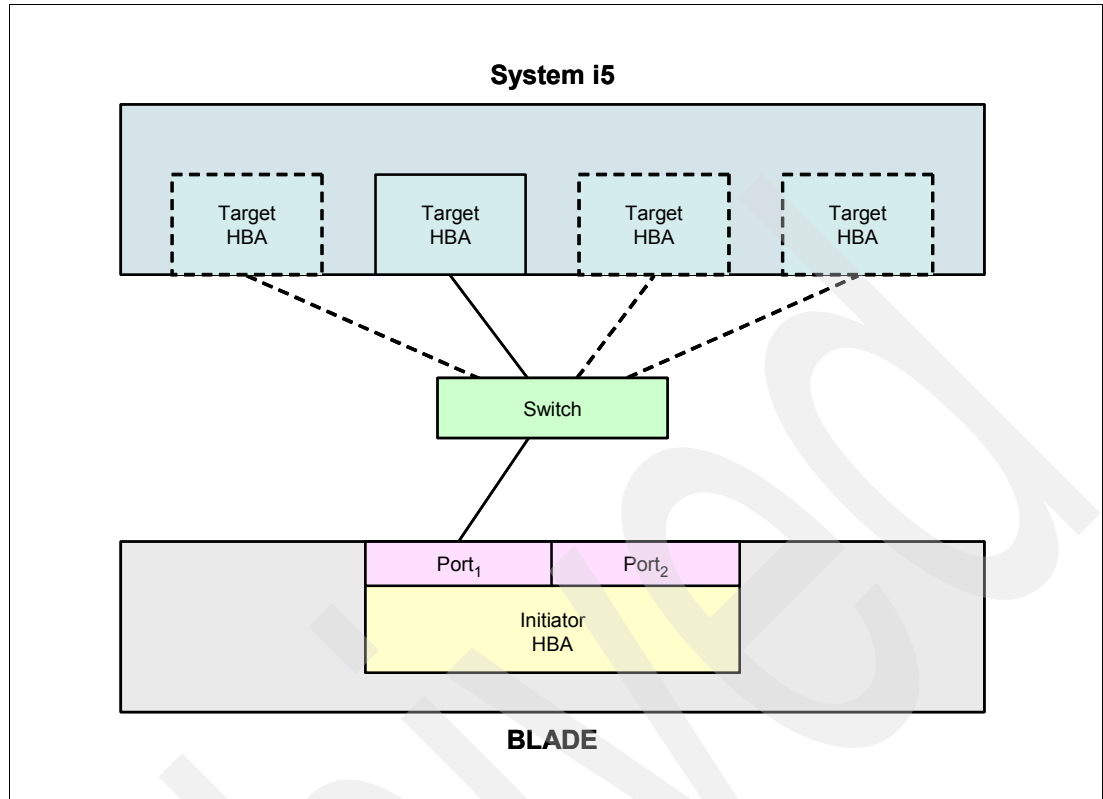
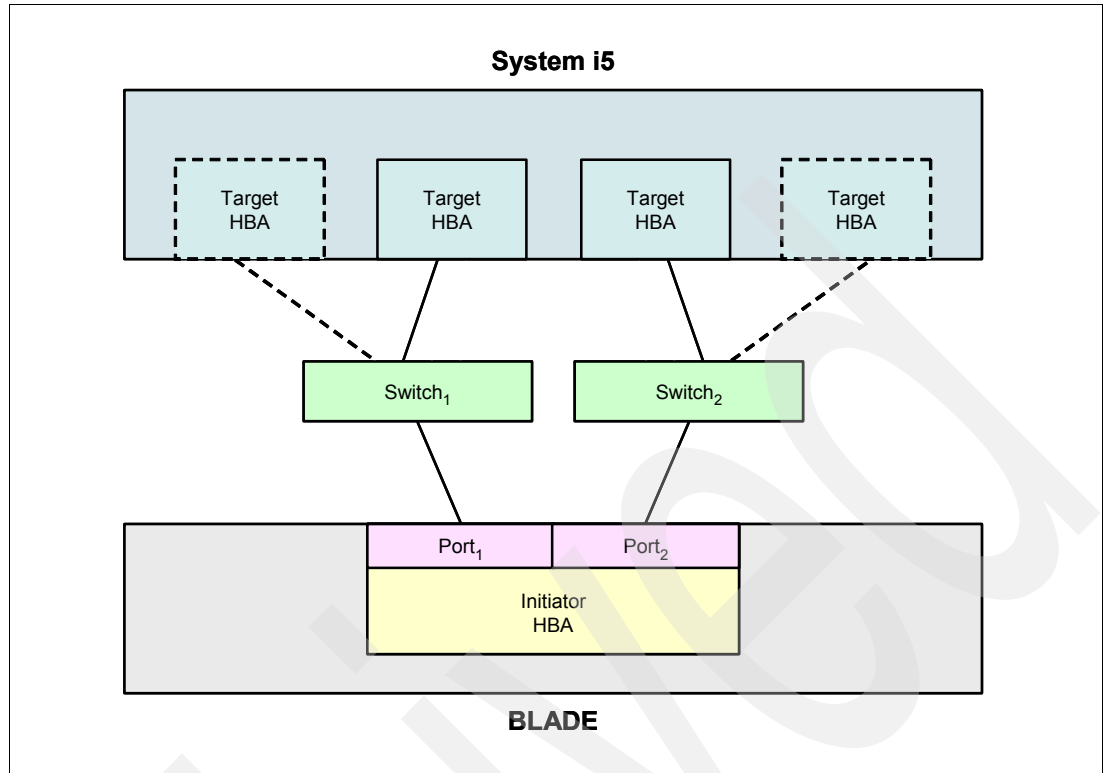
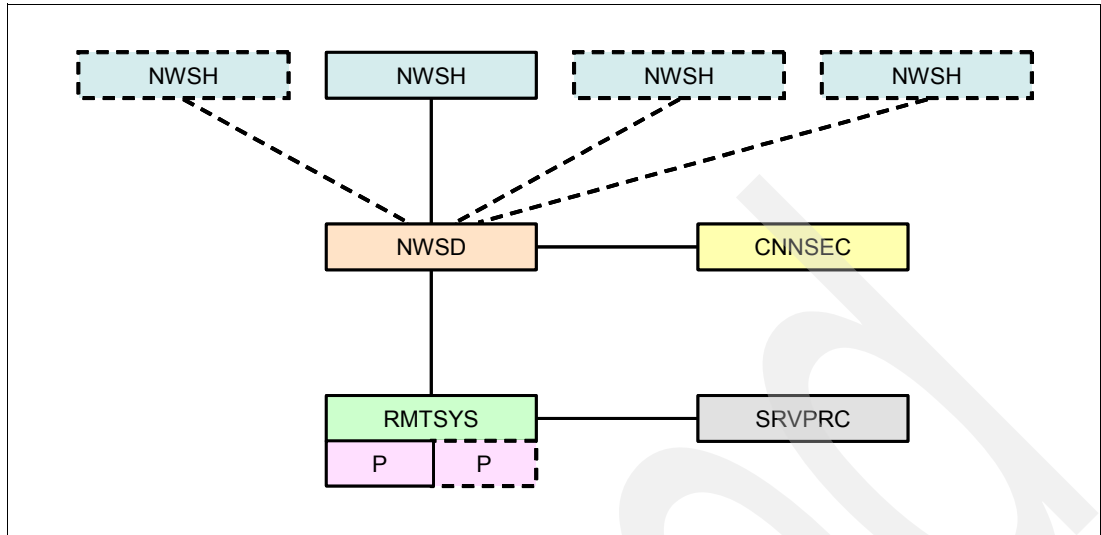

Figure 9-3 Increasing the bandwidth of a hosted Blade connection using one initiator HBA port
Figure 9-4 Increasing the bandwidth of a hosted Blade connection using both initiator HBA ports
Figure 9-5 Increasing the bandwidth of a hosted Blade connection - object-based view
Figure 9-3 on page 336 shows one of the ports on the Blade initiator HBA adapter connected to a minimum of one, and a maximum of four, target HBAs.
In Figure 9-3, note the following points:
- ▶ The minimum number of target and initiator HBA pairs you need to define a data path between a Blade server and its hosting i5/OS partition is one (shown as solid lines). As shown in Figure 9-3 and Figure 9-4 on page 337 you can add target HBAs, and activate the second initiator HBA port, to increase the bandwidth of the connection, bearing in mind that the number of target HBAs communicating with the hosted server must be equal to, or greater than, the number of initiator HBA ports activated in the Blade server.
Figure 9-4 on page 337 shows both ports on the Blade initiator HBA adapter connected to a minimum of two, and a maximum of four, target HBAs.
In Figure 9-4, note the following points:
- ▶ Each target HBA can establish only one data path to one port on the initiator HBA adapter, although each initiator HBA port can establish data paths to up to four target HBAs. Therefore in Figure 9-4, you cannot have both initiator HBA ports communicating with the same target HBA. This would be meshed data flow, which is not supported. Refer to 9.7.3, "Path deployment considerations" on page 367 for a more detailed discussion of meshed data flow.
We can also depict the target-initiator HBA relationship shown in Figure 9-3 on page 336 and Figure 9-4 using the i5/OS objects that represent the different components of the iSCSI network. Figure 9-5 on page 338 shows the equivalent object-based view to Figure 9-3 on page 336 and Figure 9-4.
In Figure 9-5, note the following points:
As shown in Figure 9-3 on page 336, Figure 9-4 on page 337 and Figure 9-5 on page 338, the maximum number of physical initiator HBA adapters you can install in a Blade server is one, but it has two ports, each of which functions as a separate initiator HBA. The maximum number of target HBAs you can configure to communicate with a hosted Blade server is four. In terms of the ratio of target HBAs communicating with initiator HBA ports in a Blade server, you can have any of the following combinations: